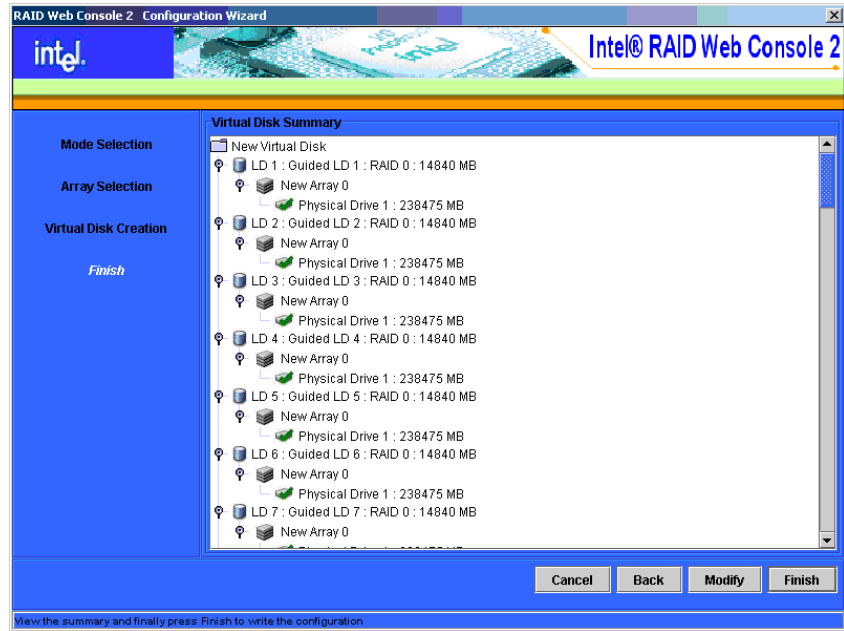

Figure 49. Final Guided Configuration Screen
6. Click **Next** to continue to the next screen, as shown in Figure 49.